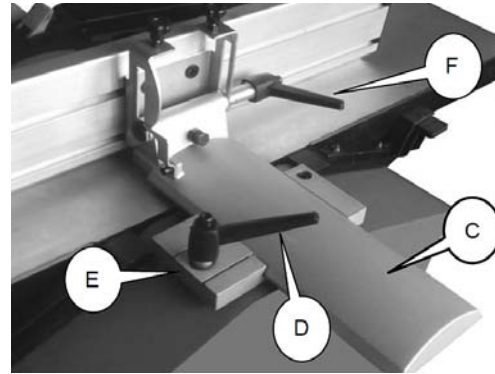

Fig. 13: Assembly of the workpiece stop
Step 1: Insert the stop bracket (C, Fig.13) into the guide.
Step 2: By turning the locking handle (D, Fig.13) fasten the stop bracket with the clamp (E, Fig.13).
Step 3: Mount the stop using the clamping screw F (Fig.13).